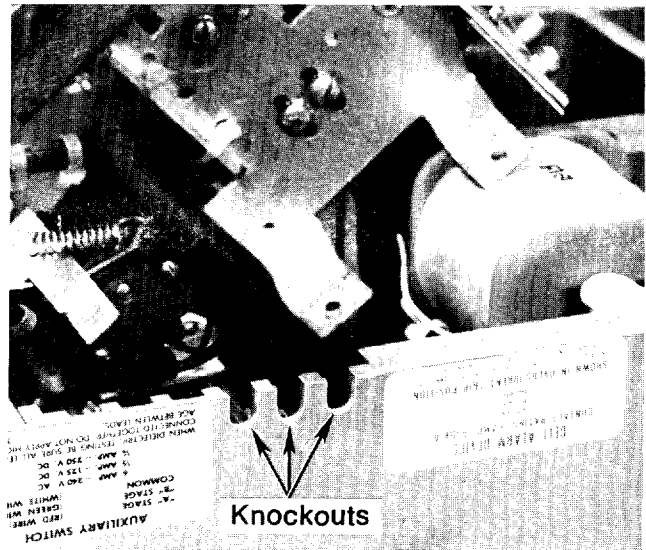

Fig. 7
- Remove knockouts as required in side of base. Each knockout will accommodate up to three bundles of wires (Fig. 7). Remove all sharp edges with a file.